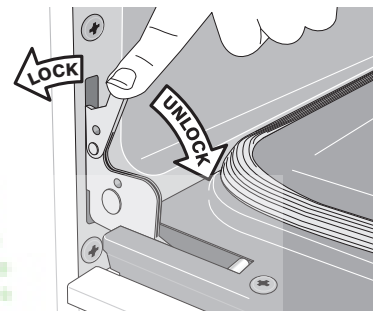

Figure 20: Door hinge locks
2. Pull the door hinge locks on both left and right door hinges down from the oven frame completely towards the oven door (See Figure 20). A tool such as a small flat-blade screwdriver may be required.
4. Push the door hinge locks up towards and into the oven frame on both left and right oven door hinges to the locked position (See Figure 20).